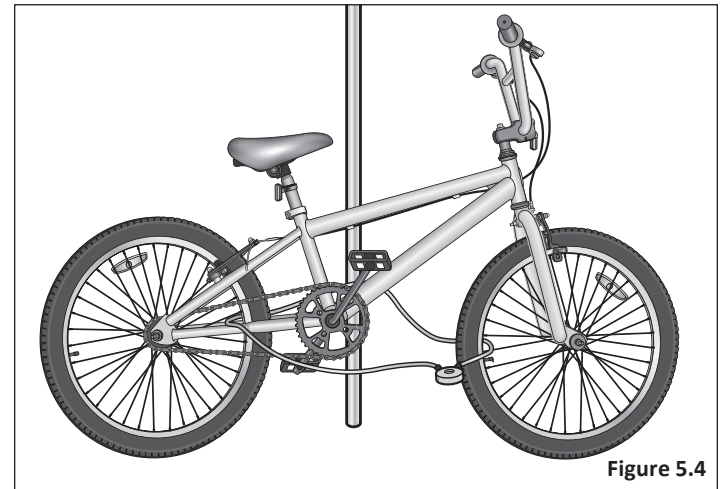

Figure 5.4
- Always lock your bicycle to an immovable object if it is left unattended. Keep in mind that individual parts of a bicycle may be stolen. Most commonly, if you lock just a wheel or just the frame, other parts may be removed from the bicycle. Although it is impossible to lock all the parts, it is suggested to lock the major components if possible. **Figure 5.4**